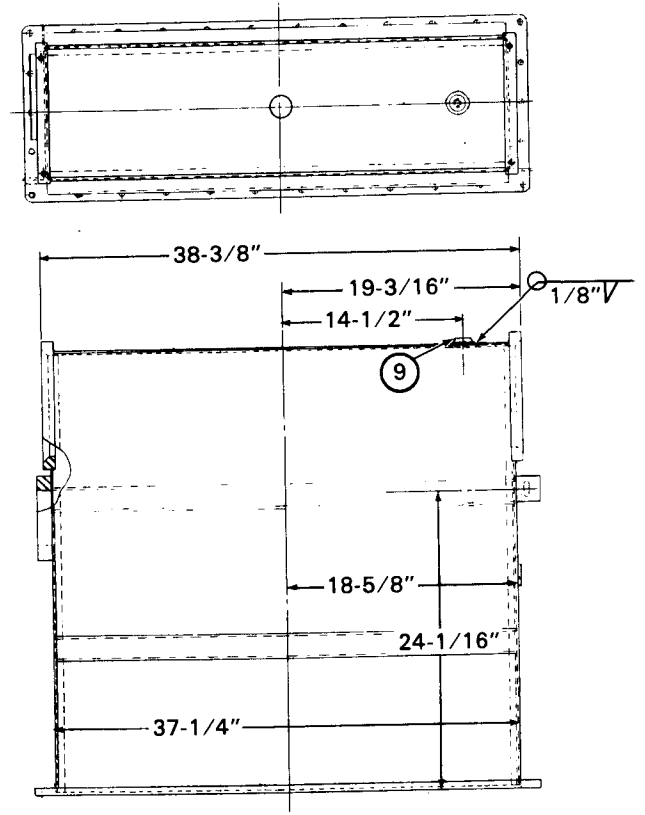

Fig. 8 - "S" Unit Oil Cooler Tank Flange Application
2. Remove the lube oil cooler tank from the cooler assembly to apply a 1/2" PT flange (9) as shown in Fig. 8.